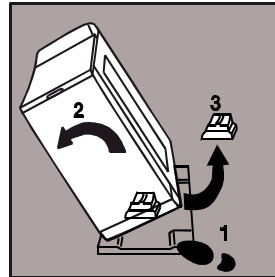

Fig. 1
- Remove all packing from the washing machine. Tilt the washing machine sideways and then remove the packing under the motor, and straighten the washing machine (fig. 1).
- Insert the seal in the hole at the bottom of the back panel (fig. 1).